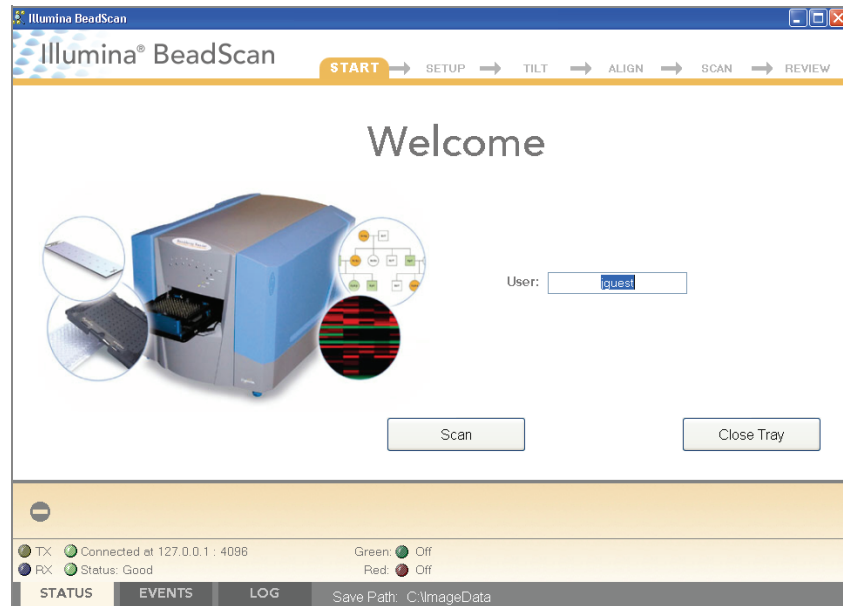

Figure 87 BeadScan Welcome Screen
4. Log in and click **Scan** (Figure 87).